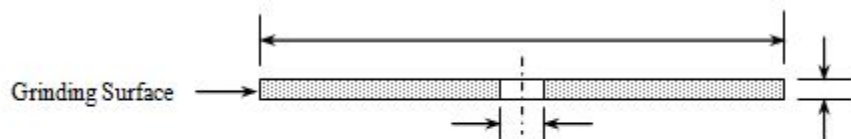

Figure 101A *Type 1 Straight Slotting Wheel*
- Type 1 (8 x 1/8 x 5/8) straight slotting wheels have diameter, thickness and hole size dimensions and grinding should be performed on the periphery (outer edge). This does not preclude their use for applications such as slotting rail ends where it is recognized that a limited amount of side corner grinding will be performed. Extreme caution should be exercised not to use excessive side pressure. (See Figure 101A)